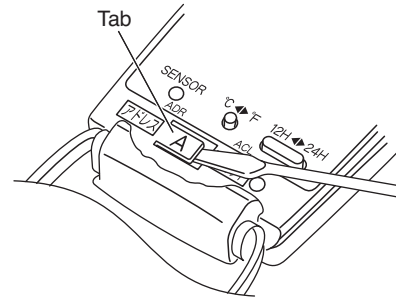
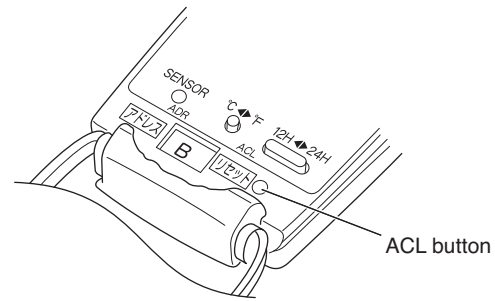

Fig. 62
Fig. 63
- (1) Switch on the power source.
- (2) Break the address-setting tab marked "A" on the second remote controller to change the address (Fig. 62). When the tab is removed, the address is automatically set to B (Fig. 63).
- (3) Press and hold the remote controller ION button and 1 HR. TIMER button. At the same time, press the ACL(reset) button. Use a thin object such as the tip of a pen to press the ACL button. When this has been done, "oP-1" (test run) appears, blinking, in the remote controller clock display area.